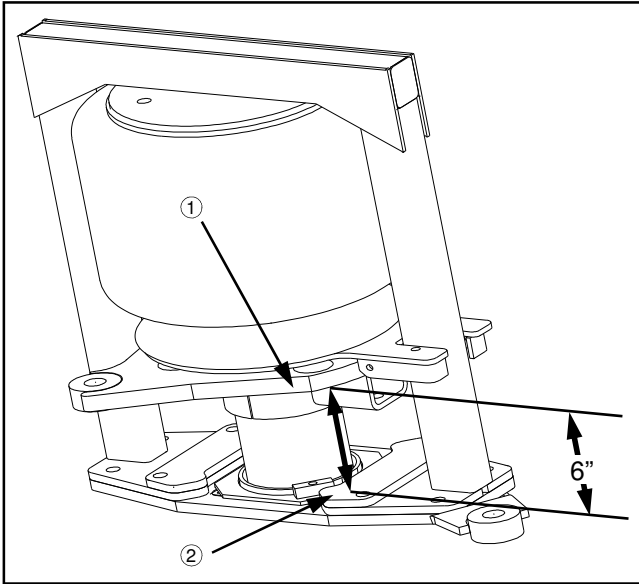

FIG 7.59
Park the machine on level ground with outriggers completely unfolded in field operating position. Adjust the air pressure in each air bag until the distance between the bottom of the steering plate (fig. 7.59, item 1) and the top of the bumper pad strike plate (fig. 7.59, item 2) is 6 inches. With a clear path on level ground, drive the machine forward 100 yards, cycling the steering back and forth, shifting machine weight from side to side. Stop on level ground and re-measure, adjust as necessary. Repeat procedure until desired measurement is achieved.